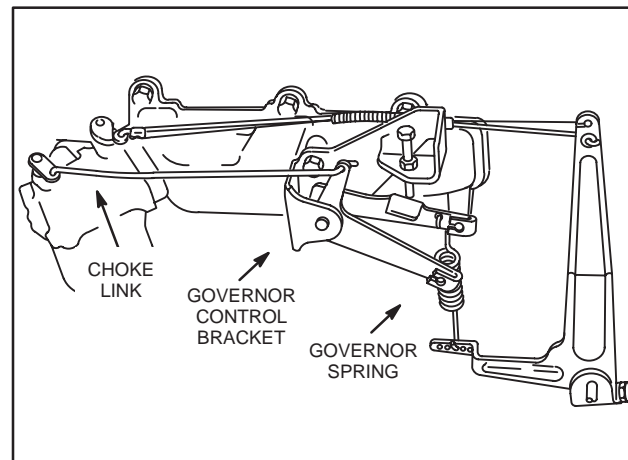

Fig. 2 – Removing Governor Control Bracket
2. Disconnect governor spring. Remove two screws and governor control bracket from intake manifold, Fig. 2.